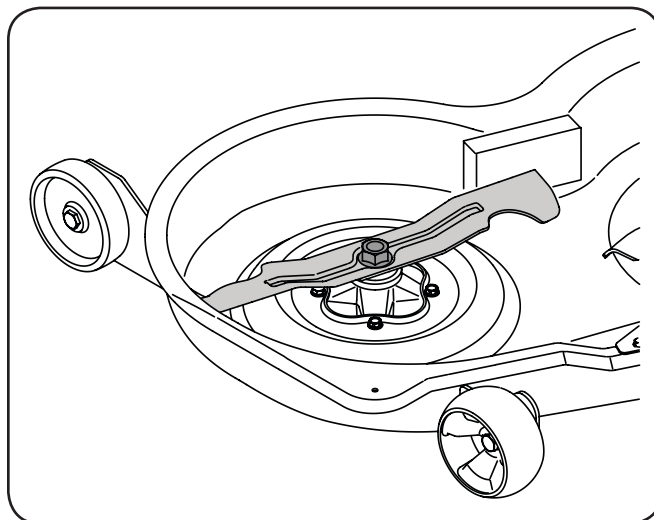

Figure 3-4
3. Place a block of wood between the deck housing baffle and the cutting blade to act as a stabilizer, then use a wrench to remove the hex flange nut that secures each blade to its spindle assembly. See Fig. 3-4.